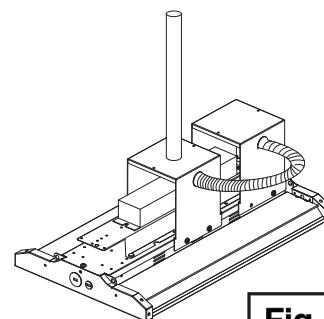

Fig. 3
3. Make wiring connections. A flexible metallic conduit may be used for 1.5ft models. **(Fig. 3)**